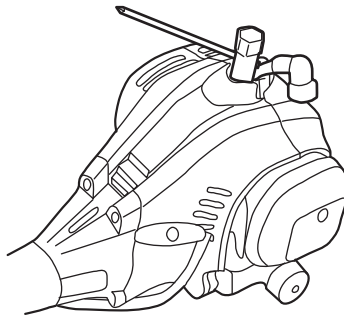

Fig. 30a
2. Unplug the spark plug connector (A2). Loosen the spark plug with the spark plug wrench (E2, E1) anticlockwise and carefully remove it. (See Fig. 30a)